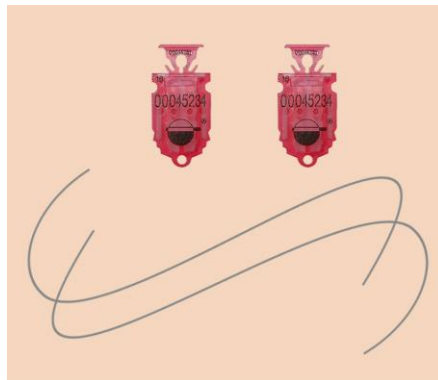

Figure 40 — Plastic seals* and sealing cord
It is required to seal the sensor and cable connector with sealing cords and disposable plastic seals to prevent fuel thefts or unauthorized interference into DUT-E AF operation. Seals and cord are included into DUT-E AF delivery set (see figure 40).
* Design of the seal supplied within the delivery set can differ from the one displayed in figure 40.